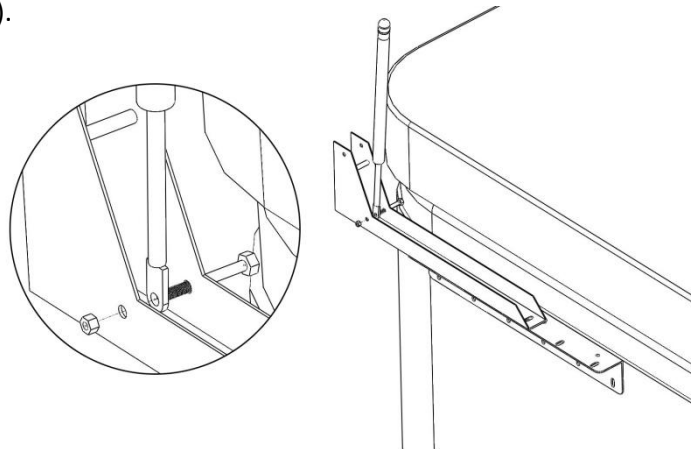

Figure 8
8. Fasten the bottom end of the Regular Gas Shock (cvRS) to the other Channel Bracket (cvBB) using the Long Hex Bolt (cvC) and the Lock Nut (cvF) as shown in Fig 8. Leave the Gas Shocks (cvRS & cvLS) lying in the well of the Channel Bracket (cvBB).